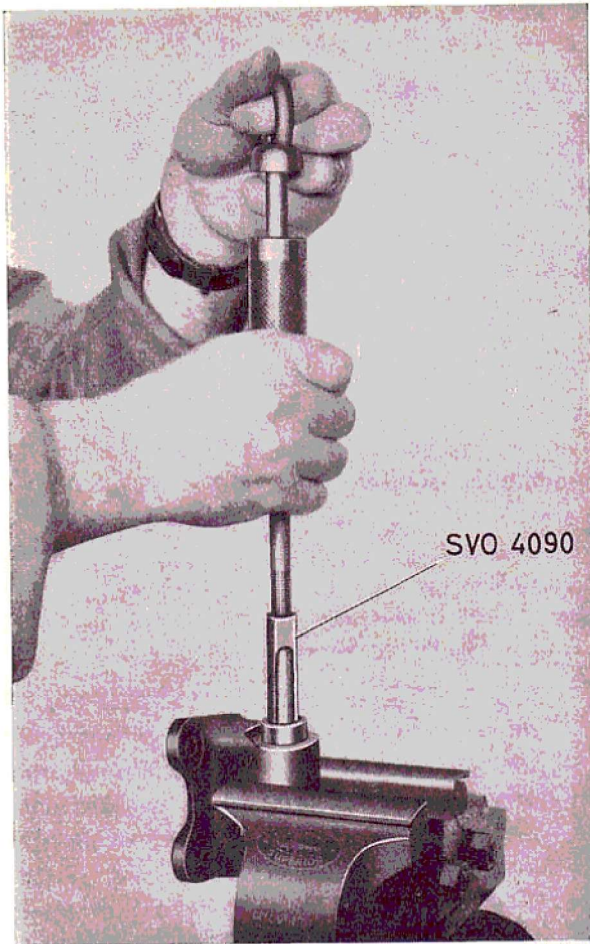

Fig. 44. Removing needle bearing. VOLVO 23750
2. Secure the bracket in a vice and pull out the needle bearings with a bearing puller, for example, SVO 4090, see Fig. 44. The bushes are removed with drift SVO 2498.